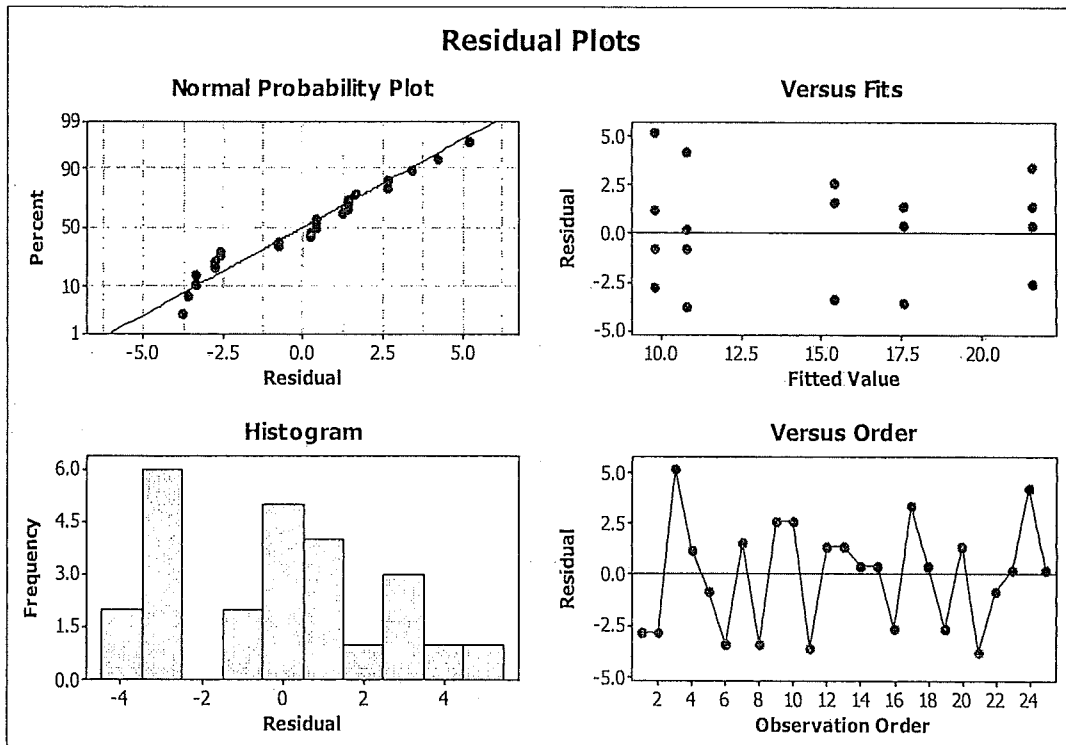

Figure 3: Residual plots
- (iv) Analyze the residuals from this experiment in Figure 3. Are the basic ANOVA assumptions satisfied?